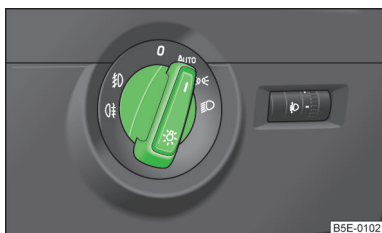

Fig. 30
- ✓ The light switch is in the position 0 or **AUTO** » Fig. 30 on page 57.
If the light switch is in position **AUTO** » Fig. 30, the parking lights, low beam and number plate lights are switched on or off automatically.
- Turn the light switch to the **AUTO** » Fig. 30 on page 57 position.